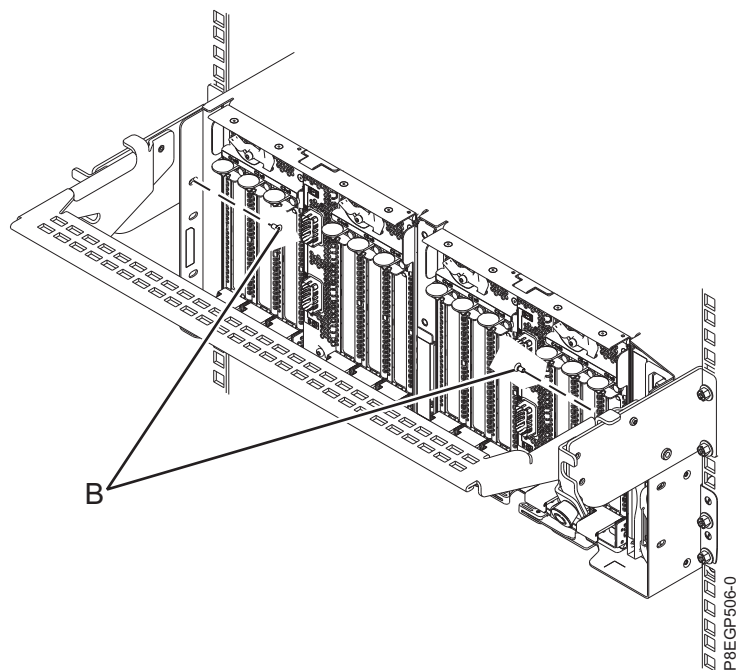

Figure 14. Applying the securing screws
12. To secure the drawer to the rack, apply the two securing screws **(B)**, as shown in Figure 14.